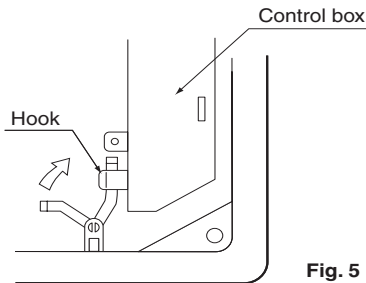

Fig. 5
- Adhere the moisture absorber ⑦ in accordance with the reference line ⑦. (Fig. 5)
4. Hang the panel temporary suspension on the hook located on the control box of indoor unit. **(Refer to Fig. 5)**
- (4) Adhere the moisture absorbers for swing flap (5) (6) aligning with the upper edge of the swing flap on the air outlet. And, adhere the moisture absorbers for panel edge (7) with the panel edge on the air outlet. See (Fig.5).